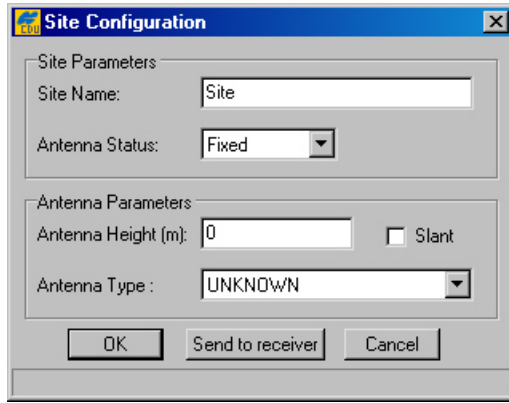

Figure 18. "Site Configuration" dialog box
4. Click the **Site parameters** button. The **Site Configuration** dialog box will appear (Figure 18). Specify the desired **Site Name** and then select the correct **Antenna Status** from the corresponding list box. Set the **Antenna Height** parameter and select/deselect the **Slant** checkbox depending on whether you have specified the slant or vertical antenna height. Set the correct **Antenna Type**. Press **OK**.